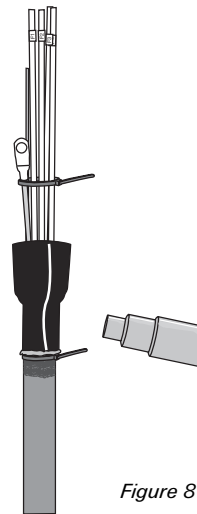

Figure 8
- Begin shrinking the tube with the CV1981 hot-air gun on setting 6. Start at the bottom of the tube, directing the air flow upward. (Figure 8) At the top of the tube, direct the air flow downward to avoid applying heat directly to the transportation tubes.